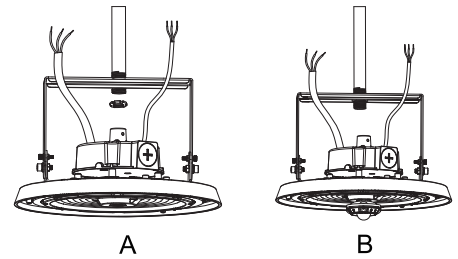

Figure 9
2. Insert 1/2" NTP stem into the bracket hole. (Figure 9)